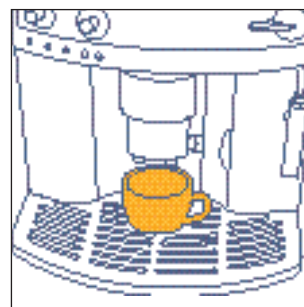
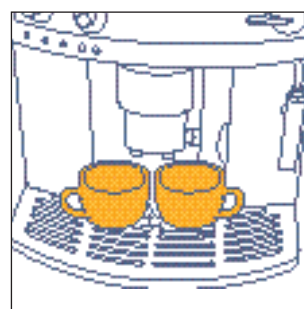
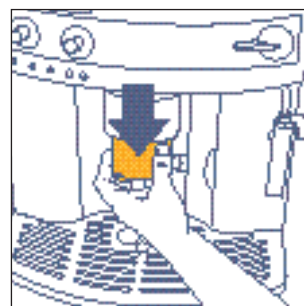

Fig.9
Fig.10
Fig.11
- 3) Adjust the left-hand knob (Fig. 9) to set the quantity of coffee required. Turning the knob clockwise makes a longer coffee. When using the machine for the first time, the correct position of the knob can be found by trial and error.
- 4) Place one cup under the spouts to make 1 coffee (Fig. 9) or 2 cups for 2 coffees (Fig. 10). For a creamy coffee, lower the spouts to bring them as close to the cups as possible (Fig. 11).